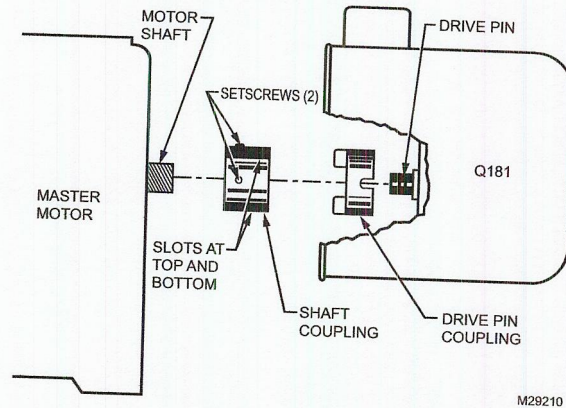

Fig. 3. Two-piece coupling for motor and potentiometer.
- The two-piece coupling provides a nonbinding connection between the motor drive shaft and the drive pin on the Q181 (see Fig. 3). Place the shaft coupling on the motor shaft so the slots are on the top and bottom when the motor is in the closed position (controller R-W contacts are closed). Tighten both set screws securely.